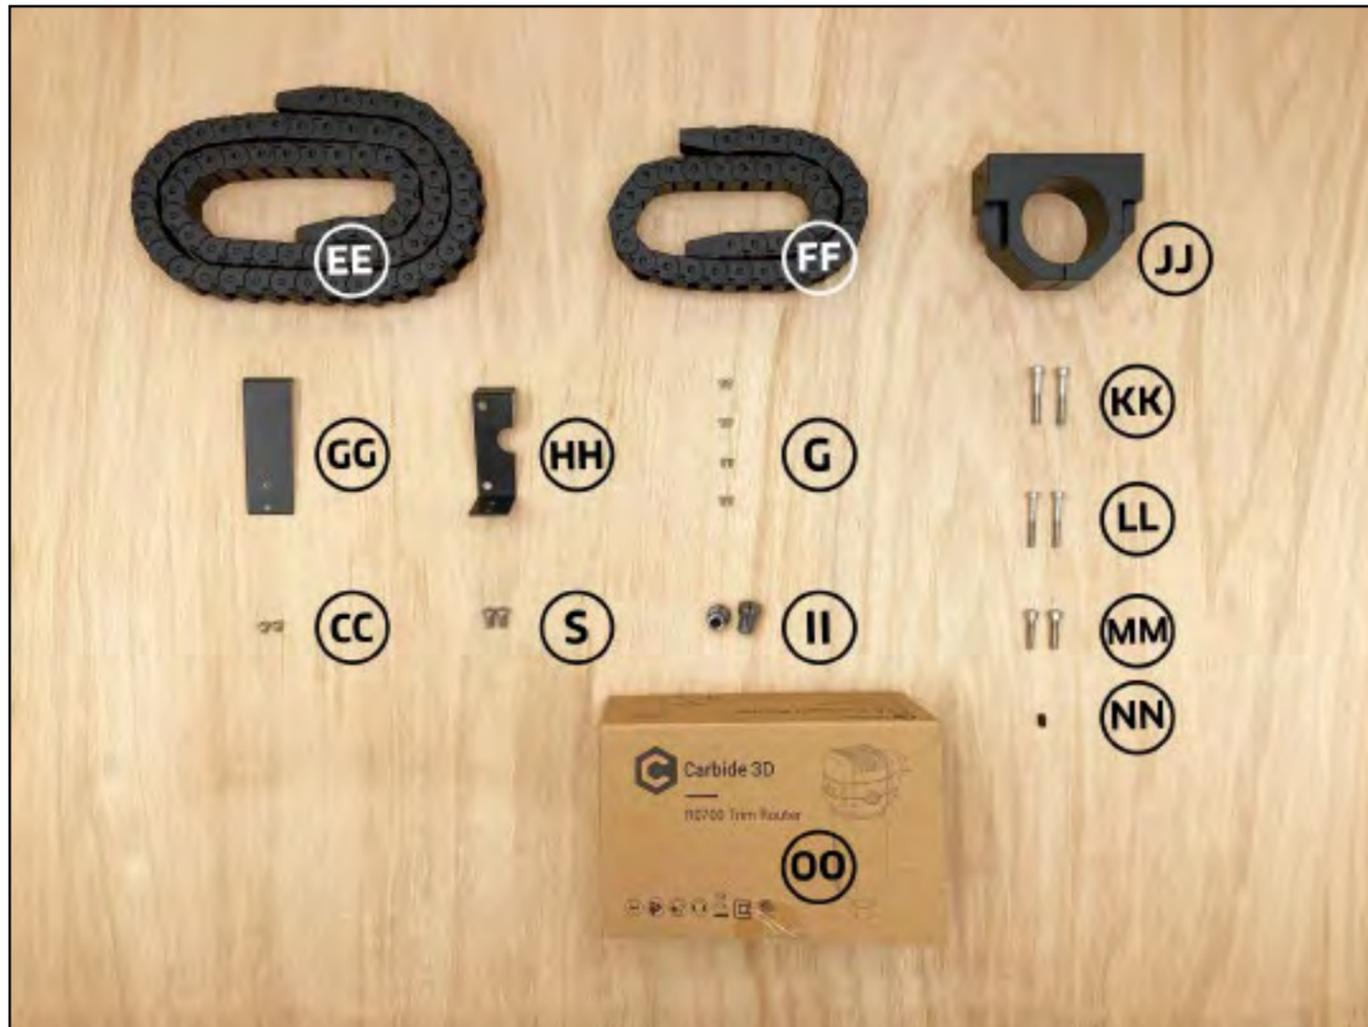

Figure 7-1
Step 7 – Router box contents; see *Fig. 7-1*.